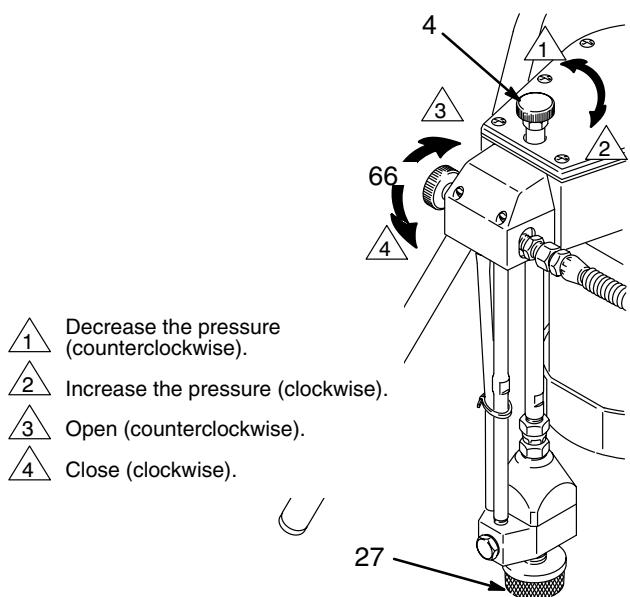
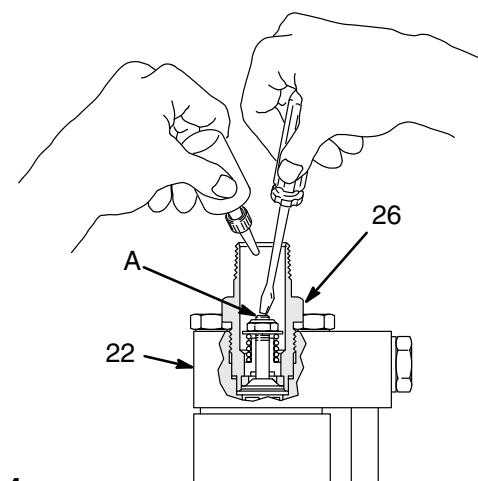

Fig. 3
Fig. 4
1. Open the bypass valve (66) ONE turn **counterclockwise**. Do not place the pump intake in the pail yet. See Fig. 3.
2. Turn the pressure control fully (4) **clockwise** to increase the pressure. See Fig. 3.
3. Remove the inlet strainer (27) and place your hand over the inlet valve to be sure it is drawing a vacuum.
NOTE: If the inlet valve (26) is not drawing a vacuum, turn the sprayer OFF. Turn the sprayer over. Press down on the stem (A) inside the inlet valve lightly with a small screwdriver, and pour about a teaspoon of mineral spirits or solvent into the valve. See Fig. 4. Release the valve and turn the sprayer upright. With the pressure turned up, turn on the sprayer. This should free any sticking parts in the pump. Now check again for a vacuum. Shut off the sprayer and install the inlet strainer (27).
5. Turn the sprayer ON and allow the paint to circulate through the bypass valve (4) for one or two minutes.